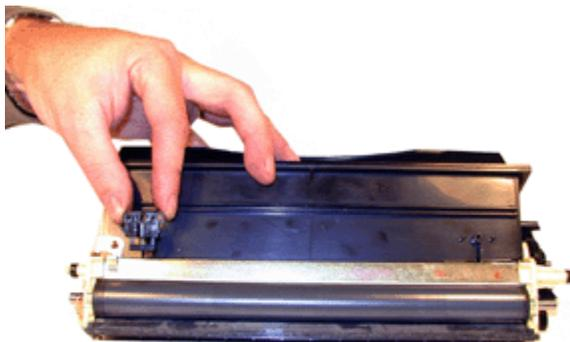

FIGURE 34
31. Install both of the dr. blade tensioners and screws. See Figure 34